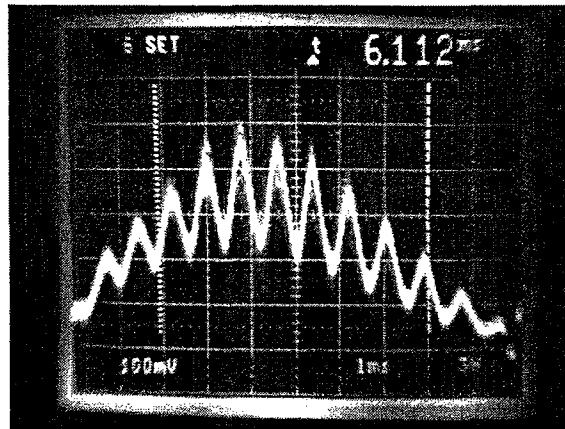

Fig. 4.7 Q-Switch spectrum modulated as a function of  $\frac{1}{4}$  waveplate orientation
- 3) Observe the Q-switch spectrum on the oscilloscope. Ensure that the spectrum is not modulated after insertion of the waveplate into the Regen cavity. If the spectrum appears to be modulated, make slight rotations to the  $\frac{1}{4}$  waveplate with emphasis of smoothing the modulated spectrum. Fig. 4.7 is an example of the Regen spectrum modulated as a function of slight  $\frac{1}{4}$  waveplate misalignment.